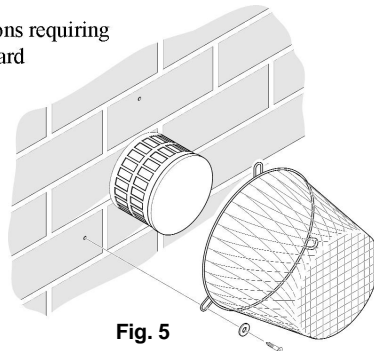

Fig. 5
c. The guard must be screwed to the wall over the flue terminal and be at least 50mm (2 in) clear of any part of the terminal. A suitable guard is available direct from Baxi Heating, Part No. 080266 (Fig. 5).